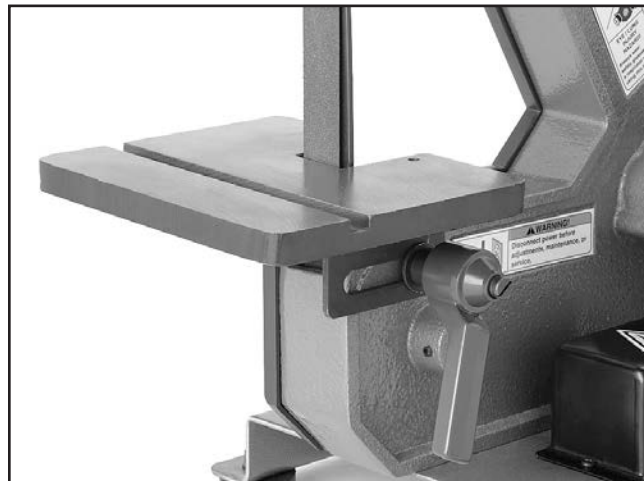

Figure 19. Sanding belt table installed.
19. Install the belt table with a $\frac{1}{16}$ " clearance from the sanding belt, and secure it in place with the table lock handle (see **Figure 19**).